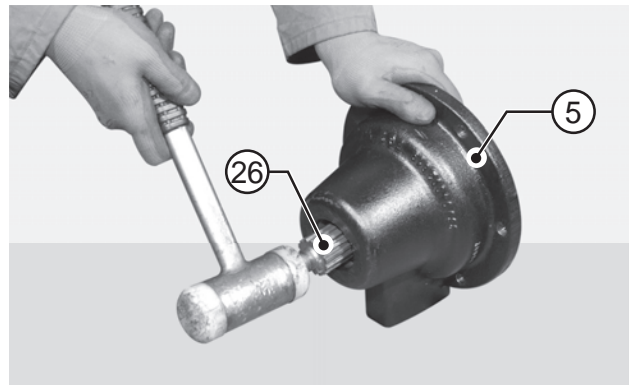

FIGURE 23: Remove the lower shaft (26).
FIGURE 23: Apply Loctite 510 to the surface of the flange (21) and install the complete support assembly (5). Lock with screws (32) coated with Loctite 510, and tighten using the criss-cross method to a torque of 49 - 51 N·m.